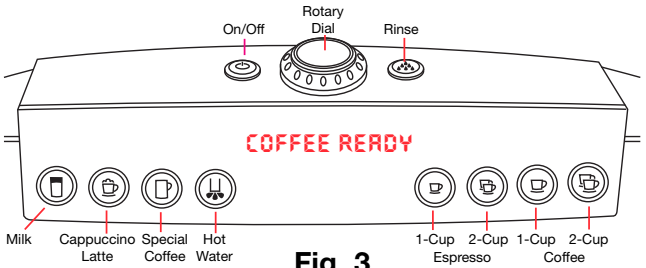

Fig. 3
4. Push On/Off button on top (Fig. 3). Place a large cup under the Hot Water Spout / Coffee Spouts and one under the Auto Cappuccino System (ACS) (Fig. 5e). **PRESS RINSE**. Push the Rinse button. **SYSTEM FILLS**, then **WELCOME TO JURA** then **UNIT IS HEATING** then **PRESS RINSE**. Press the Rinse Button. **COFFEE READY**.
- Push On/Off button (Fig. 3). **MACHINE IS HEATING** then **RINSE**. Place a cup under the coffee spouts and press the Rinse Button. **COFFEE READY**.